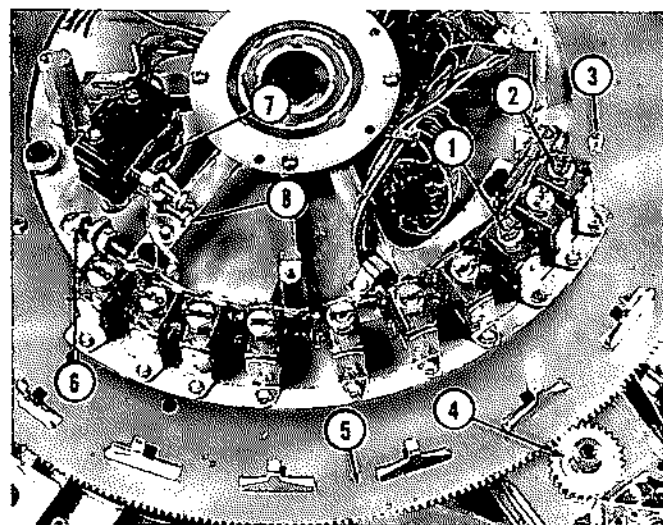
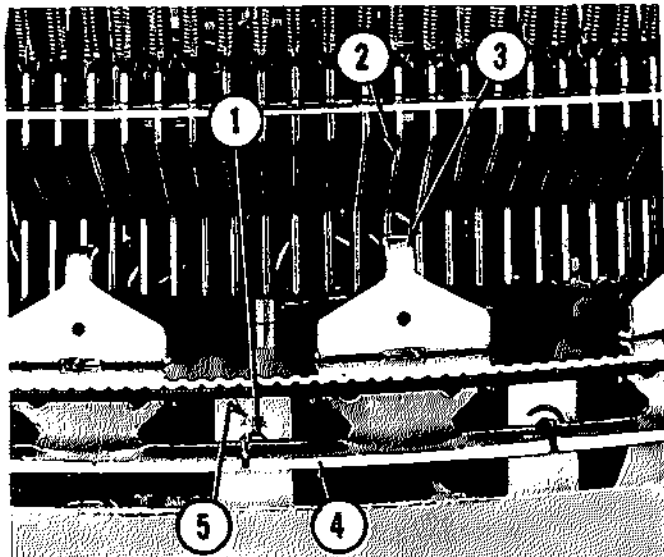

FIG. 20. ELECTRIC SELECTOR - 2600
FIG. 21. ELECTRIC SELECTOR - 2600
(1) Manually depress the number "1" Solenoid Plunger (Fig. 20, Item 2) and turn the Rotating Plate and Rocker Arm Assembly (Item 5) in a clockwise direction by turning the Nylon Gear (Item 4) of the Selector Motor Assembly. One of the Stop Pins (Item 3) will contact the depressed plunger of the number "1" solenoid. Continued rotation of the nylon gear will drive the number quadrant until it stops against the forward Stop Screw (Item 6). In this position, the left hand end of the Actuator Bar (Fig. 21, Item 4) should be in line with the left hand edge of the formed tip of the Letter Coil Plunger (Item 1) with a maximum overtravel of $1/32''$. Check this alignment at each of the 20 letter solenoid plungers. The forward Stop Adjusting Screw (Fig. 20, Item 6) may be set to provide correct alignment. The tip of the Rocker Arm (Fig. 21, Item 3) may contact the edge of the Selector Pin (Item 2) on the center line of the Rocker Arm tip with a tolerance of $1/32''$ either side of center.
(2) Release the nylon gear and allow the number quadrant to return to rest position. Repeat the foregoing steps, depressing the number "0" Stop Solenoid Plunger (Fig. 20, Item 1). Manually hold the number quadrant in its forward stop position with the Nylon Gear (Item 4) and check the alignment of the 20 Letter Solenoid Plungers with the Rocker Arm Actuating Bars. The number "0" position will be at
The Start Switch (Fig. 20, Item 7) should be checked after any adjustment of the forward Stop Screw (Fig. 20, Item 6). It is actuated by the forward movement of the number quadrant and the Adjusting Screw (Fig. 20, Item 8). It is important that this switch operate very close to the time when the number quadrant stops against the forward Stop Screw. The following method may be used to adjust the Start Switch: Manually hold a number Solenoid Plunger depressed. Turn the Rotating Plate and Rocker Arm Assembly in a clockwise direction by turning the Selector Motor Nylon Gear (Fig. 20, Item 4) until the number quadrant rests against the forward Stop Screw (Item 6). Hold the number quadrant firmly in position with the Nylon Gear and back out the Actuating Screw (Fig. 20, Item 8) until the switch is in its normally closed position. Turn the Actuating Screw (Item 8) in until the switch actuates plus one full turn for overtravel.